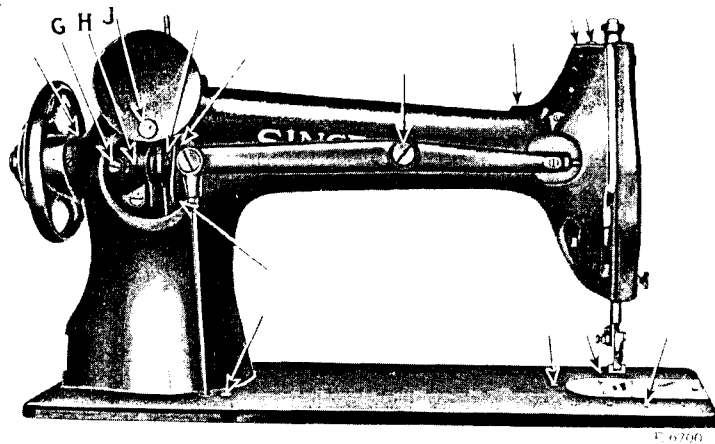

FIG. 3. OILING POINTS AT THE BACK OF THE MACHINE
Loosen the thumb screw (J, Fig. 3) in the round cover plate on the back of the machine, turn the cover plate up and oil the bearings which are thus uncovered.
Occasionally remove the knurled thumb screw (G, Fig. 3) and fill the gear case (H, Fig. 3) with Singer High Speed Lubricant, a grease which is especially prepared for this purpose, then replace the thumb screw (G).